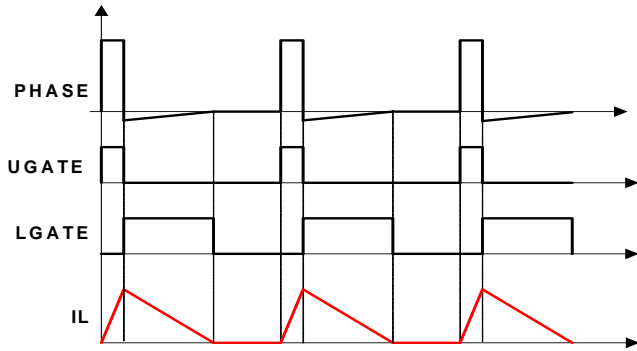

FIGURE 8. DIODE EMULATION
ISL62881 can operate in diode emulation (DE) mode to improve light load efficiency. In DE mode, the low-side MOSFET conducts when the current is flowing from source to drain and doesn't allow reverse current, emulating a diode. As shown in Figure 8, when LGATE is on, the low-side MOSFET carries current, creating negative voltage on the phase node due to the voltage drop across the ON-resistance. The ISL62881 monitors the current through monitoring the phase node voltage. It turns off LGATE when the phase node voltage reaches zero to prevent the inductor current from reversing the direction and creating unnecessary power loss.